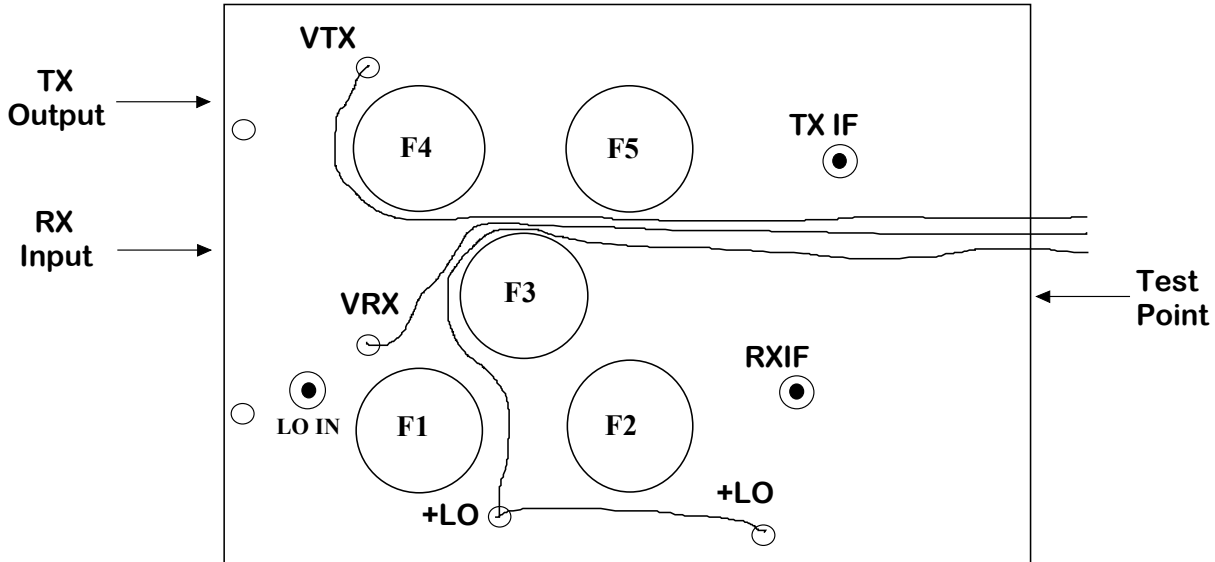

Figure 6. FILTER SIDE OF BOARD
11. Install the bias wires as shown in figure 6. The figure shown is a LP pallet assembly. **All wires come in through the back of the pallet** through the 1/8" holes. They get soldered to the circuit board where indicated either on the component placement diagram or circuit board. They are labeled -5V, +VTX, +VRX, +LO, +9, +D. Using the #28 Teflon wire, cut, strip and tin the ends of a 2.75" length. Connect the two +LO together by inserting one end of the wire through the hole by R5 and **solder it to that pad**. Cut, strip, and tin three 6" pieces of wire. Insert the end of one 6" wire with the loose end of the 2.5" wire previously soldered through the +LO hole by C4 and C5. Solder both wires there. Now connect a 6" wire in both the +VTX and (mid board) +VRX holes. If you have the 2 Watt version, cut two 9" #28 for the +VRX and +9 connections near IC2. Cut a 1.25" and a 3.5" #28 wire. Install one end of each in the -5V connection points near VR1. Run the short one to the -5V by C39 and the long one to the -5V by R14. Now install a 1" #24 wire (largest gauge in kit) in the +D hole by IC1. Now install the 10 watt, 2 ohm resistor using two 3-48 x 1/4 screws on the filter side of the pallet. Solder the 1" #24 wire to the one end and then connect a 9" #24 wire to the other end.